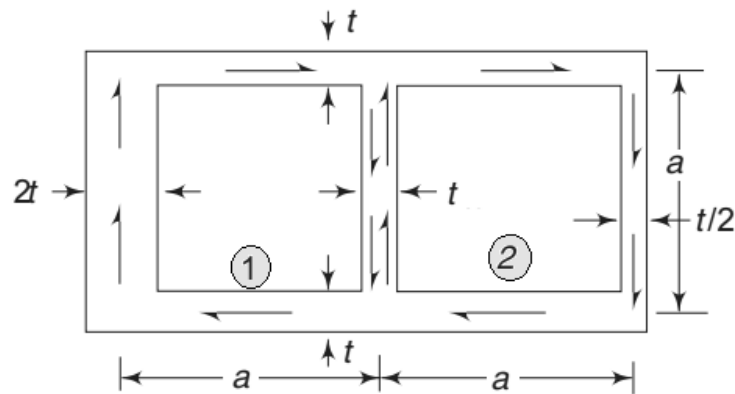

Figure-4
7. Figure-4 shows a two-cell tubular section whose wall thicknesses are as shown. If the member is subjected to a